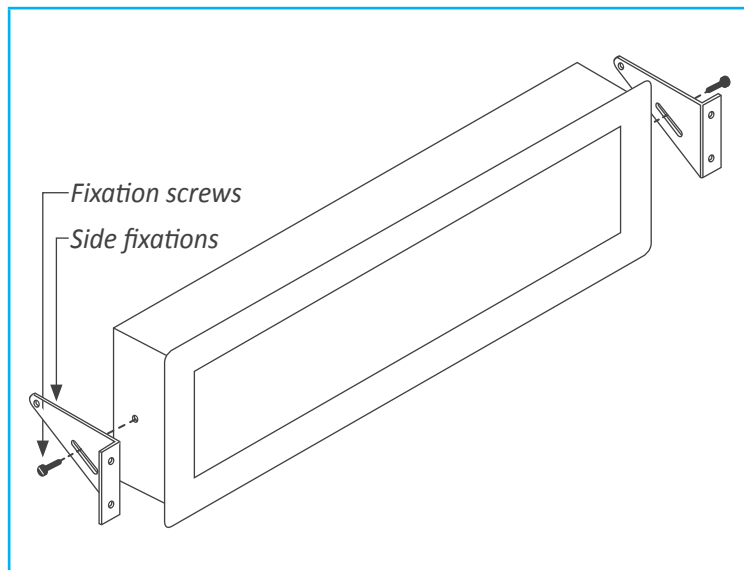

Figure 9 - Panel mount
- Panel mount. Apply the cut-out to the panel as seen on section 1.4. Remove the side fixations. Introduce the instrument into the panel cut-out. Mount the side fixations as shown (see Figure 9). Slightly loosen the fixation screw of one side and press the instrument against the panel. Tighten the fixation screw so it presses the panel and maintains the fixation. Repeat with the opposite side fixation. For IP65 protection at the panel junction, see the IPB accessories at section 3.